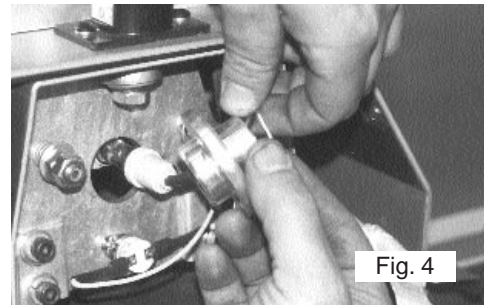

Fig. 4
4. Carefully remove the lamp support bracket and place aside with the allen mounting screws. Do this at both ends of the lamp. (See Fig. 4)